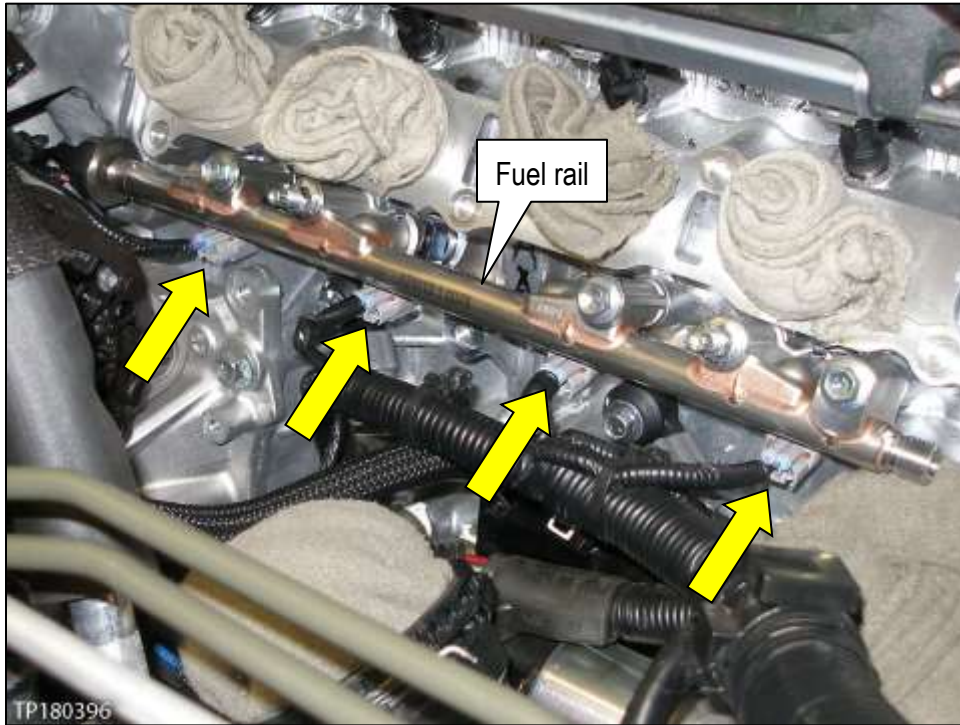

Figure 42
40. Disconnect the four (4) direct fuel injector connectors (see yellow arrows in Figure 42).